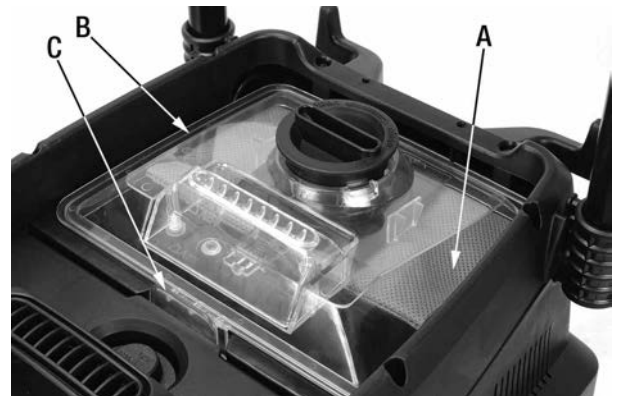

FIGURE 4
1. The cloth dust bag (A) Fig.4 must be installed to the clear cover (B) on the top of the vacuum as shown. If the dust bag is not installed, push clear cover latch (C) Fig.4 and remove clear cover.